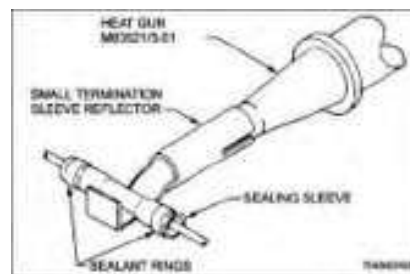

Figure 180
19. Shrink sealing sleeve using hot air gun with small termination reflector. Shrink middle first and move heat towards one end until sealant melts and begins to flow out of sleeve as shown in Figure 180.